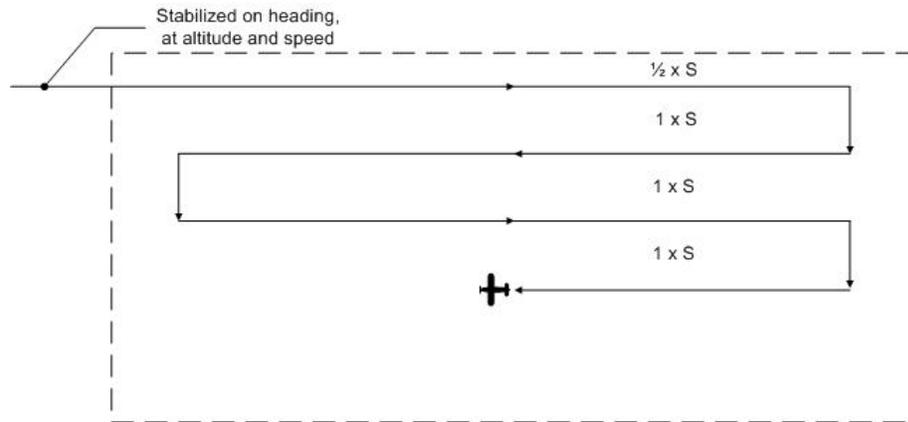

Figure 10-2
The aircraft proceeds to a corner of the search area and flies at the assigned altitude, sweeping the area maintaining parallel tracks. The first track is at a distance equal to one-half ($1/2$) track spacing (S) from the side of the area (Figure 10-2). [Note: In the example the aircraft makes all turns inside the grid; if the briefer and circumstances allow (no aircraft in adjacent grids), turns should be made outside the grid in order to give the scanners short breaks.]